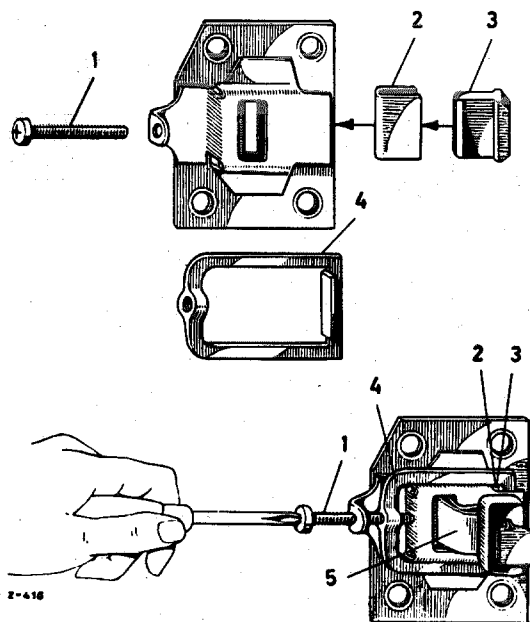

Fig. 72 — 2/3
5. Remove the adjusting screw (1), the retaining clamp (4), the sliding jaw (2), and the rubber cushion (3) (Fig. 72—2/3).